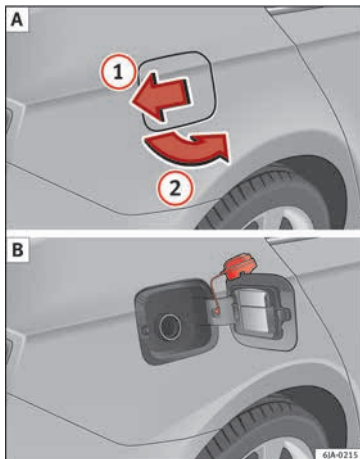

Fig. 48 Vehicle as seen from the rear right: fuel tank flap/fuel tank flap with tank unscrewed cap attached.
- Press the fuel tank flap in the direction of the arrow ① » » » **Fig. 48 A** and open it in the direction of the arrow ②.
- Rest it on the upper part of the fuel tank flap » » » **Fig. 48 B**.